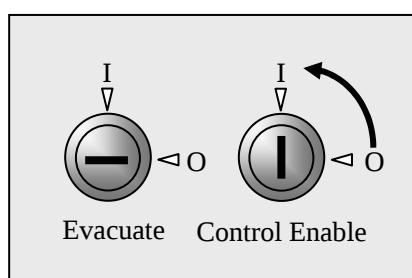
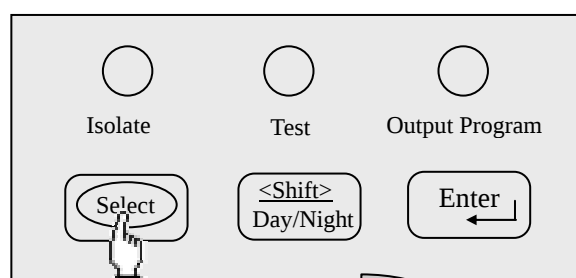

Fig.4.2.2a
Fig.4.2.2b
4.2.5.3.1 Press the **Select** pushbutton for 1 second, the **Isolate** indicator flashes. See Fig.4.2.2a-Fig.4.2.2b.